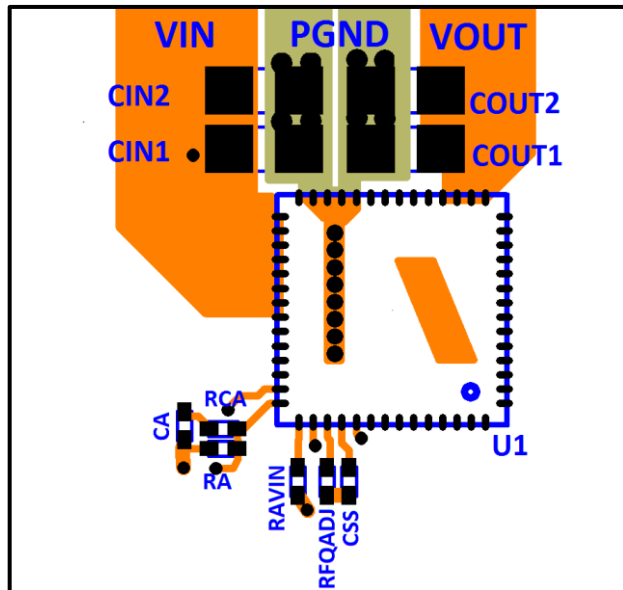

Figure 8: Top Layout with Critical Components Only (Top View).
**Recommendation 7:** The layer 1 metal under the device must not be more than shown in Figure 8. Refer to the section regarding Exposed Metal on Bottom of Package. As with any switch-mode DC-DC converter, try not to run sensitive signal or control lines underneath the converter package on other layers.